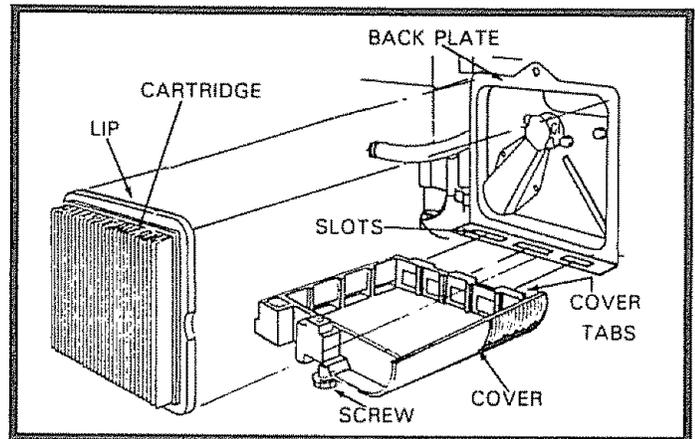

FIG. 13
- Loosen Screw and tilt Cover as shown in fig. 13.
- Install Cartridge, then replace Cover making sure the tabs are aligned with the slots in Back Plate. Fasten Screw securely (See Fig. 13).